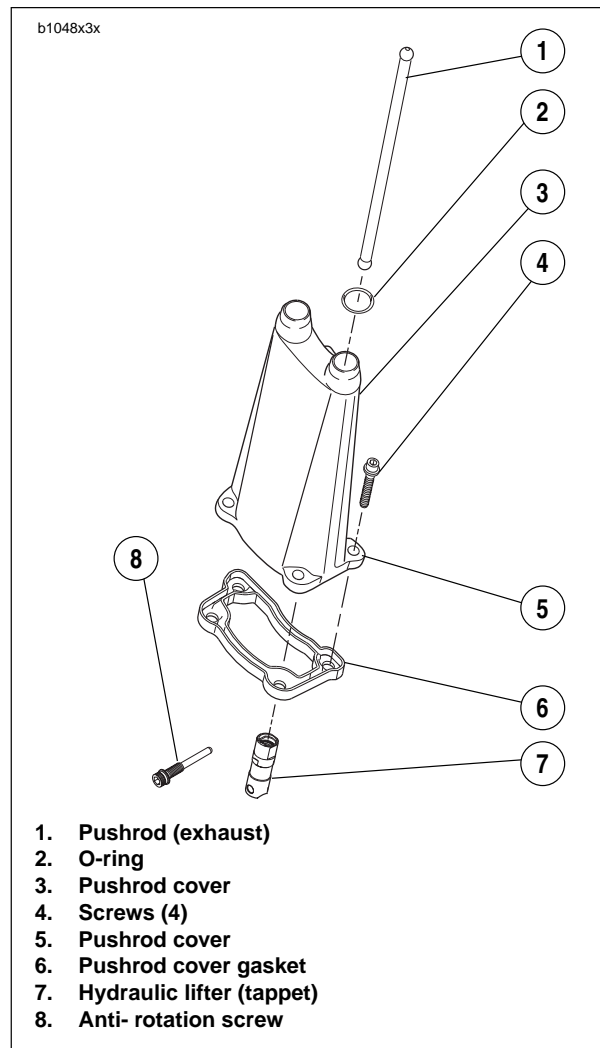

Figure 3-125. Valve Lifter Service
3. See Figure 3-125. Remove push rod covers.
3. See Figure 3-125. Insert lifter into bore in crankcase. Rotate lifter so that flats at upper end of lifter face the front and rear of the engine. If the lifter is installed incorrectly, anti-rotation screws cannot be inserted.
5. See Figure 3-125. Install push rod cover.